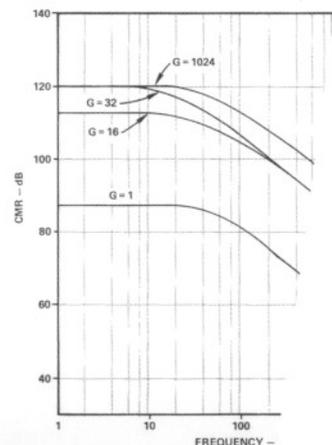

Figure 9. Common-Mode Rejection
**Common Mode Rejection:** CMR is dependent on source impedance imbalance, signal frequency and amplifier gain. CMR is specified at gains 1 and 1024 with  $\pm 10V$  CMV and  $1k\Omega$  source impedance over the frequency range of dc to 60Hz. Figure 9 shows the typical CMR performance vs. gain and frequency. For the AD612/AD614, CMR is typically 26dB above